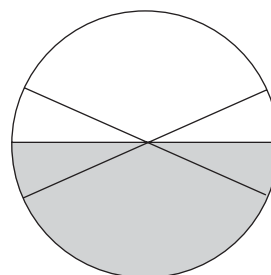

Fig. 8-2
- ② Close the secondary prism slowly. Turn the measurement knob while looking through the eyepiece so that the boundary line crosses with the intersection point of the cross lines (Figure 8-2). Turn the color compensation knob to improve the clarity of the boundary line if necessary.